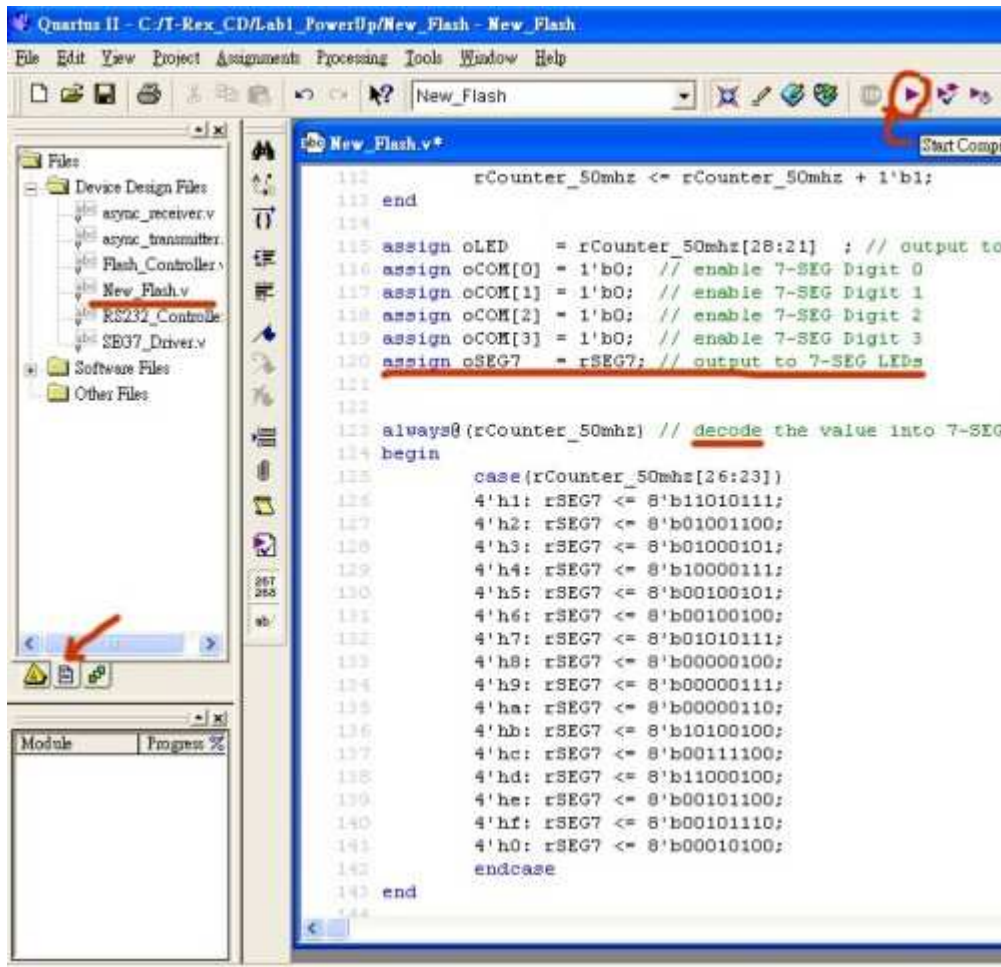

Figure 4.3. The Content of New_Flash.v
- ✓ Please refer to Figure 4.3. Click on File Icon in the bottom of left-hand side window and select New_Flash. Examine the file content and the IO port declaration. You will find that the 8-bit 7-SEG data bus (oSEG7) are shared by all four digits. You can enable each digit by drive 0 to its corresponding enable pins (oCOM[3..0]). In this case, we constantly drive 0 to all four enable pins. Therefore, the four 7-SEG display digits display the same HEX number.